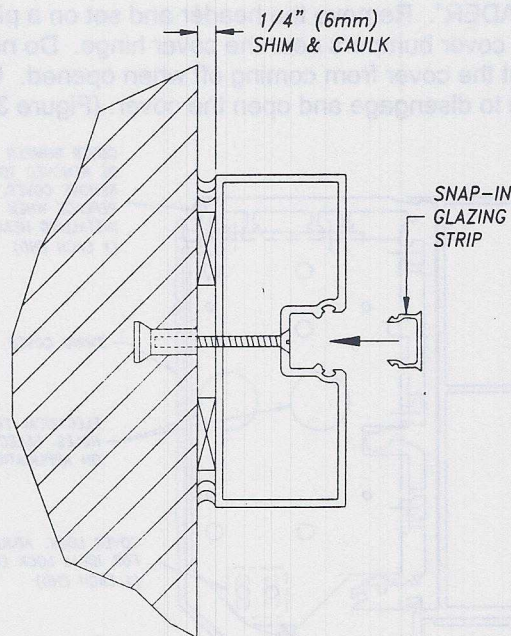

FIGURE 5: Anchoring the Jamb Tube
6. Use appropriate fasteners (four per jamb) to anchor through the glazing recess of the jamb tube to the wall or adjacent framing. Check the jamb tubes with a level to be sure that the tubes have not been pulled in by the anchors. Finally, install the snap-in glazing strips into the jamb tubes (Figure 5).